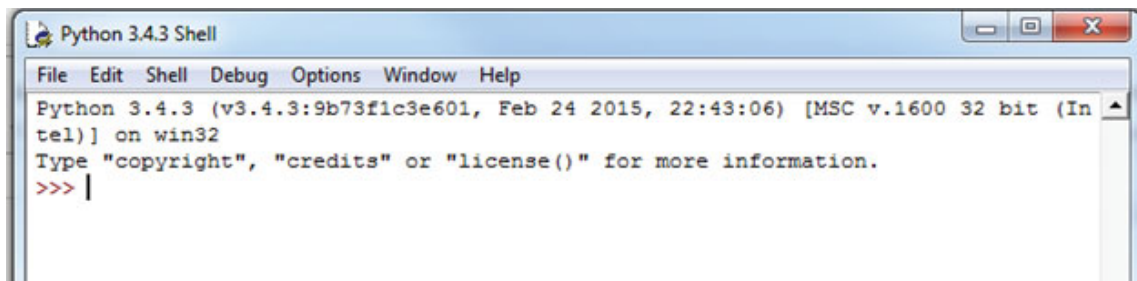

Figure 1-8. Python Shell
6. The Python 3.4.X shell will open and take line by line commands. See Figure 1-8